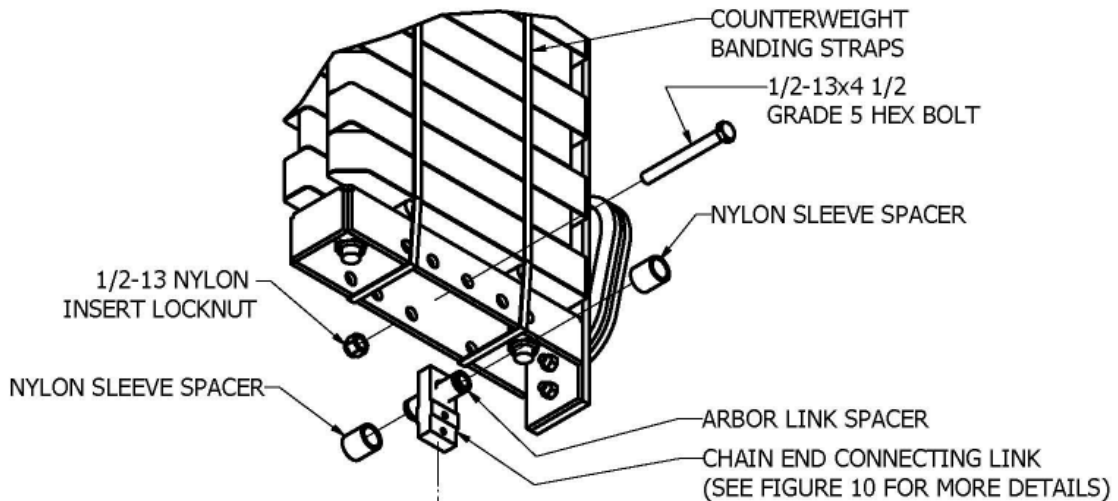

Figure 11: Attaching the drive chain to the bottom of the arbor
2. Temporarily install the Chain End Link into the underside of the arbor using the Arbor Link Spacer and the ½" bolt. See Figure 11. It is not necessary to install the nut onto the bolt in this step, merely pin the parts in place temporarily.
6. Insert the Arbor Link Spacer provided with the hoist through the wire rope thimble and into the arbor top. Bolt through the arbor top with a ½-13 UNC Grade 5 hex bolt. The Arbor Link Spacer can be identified by the two grooves turned into the part at each end. See figure 11.